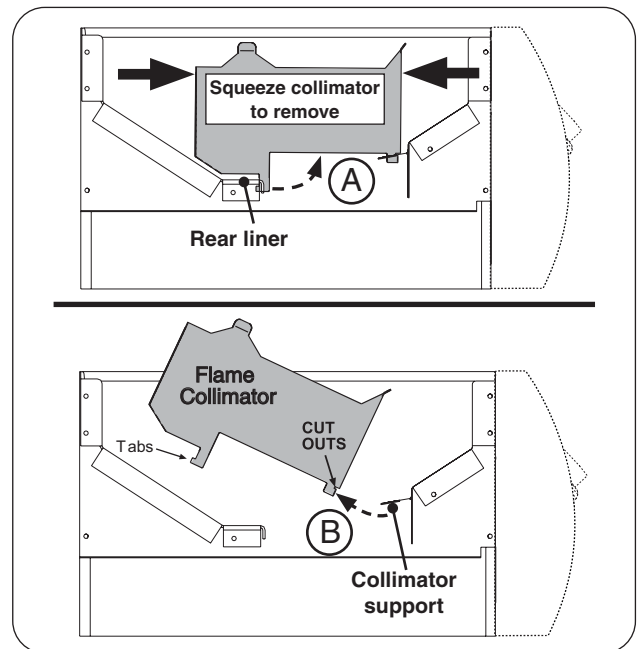

Fig. 43-2 Flame collimator removal
2. Squeeze the collimator to detach the rear tab from the rear liner as shown in Fig. 43-2, A, and lift up the rear portion of the collimator.
3. Detach the collimator from the front collimator support and completely remove the collimator as shown in Fig. 43-2, B.